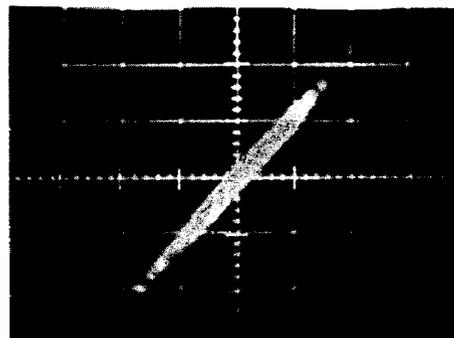

Fig 7.4 Effect of focus adjustment
- (f) Lace up and play the pink noise side of Dolby test film Cat. No. 69. With the CP100 still in bypass and the oscilloscope connected as above, switch the oscilloscope to X/Y mode. With the real-time analyser connected to left and right channels in turn, adjust focus for maximum h.f. on the real-time analyser (Fig. 7.4) and rotate the slit for best azimuth as seen on the oscilloscope (Fig. 7.5). (Check that the X and Y gains of the oscilloscope are identical by applying the same input to each trace in turn or simultaneously to both inputs).